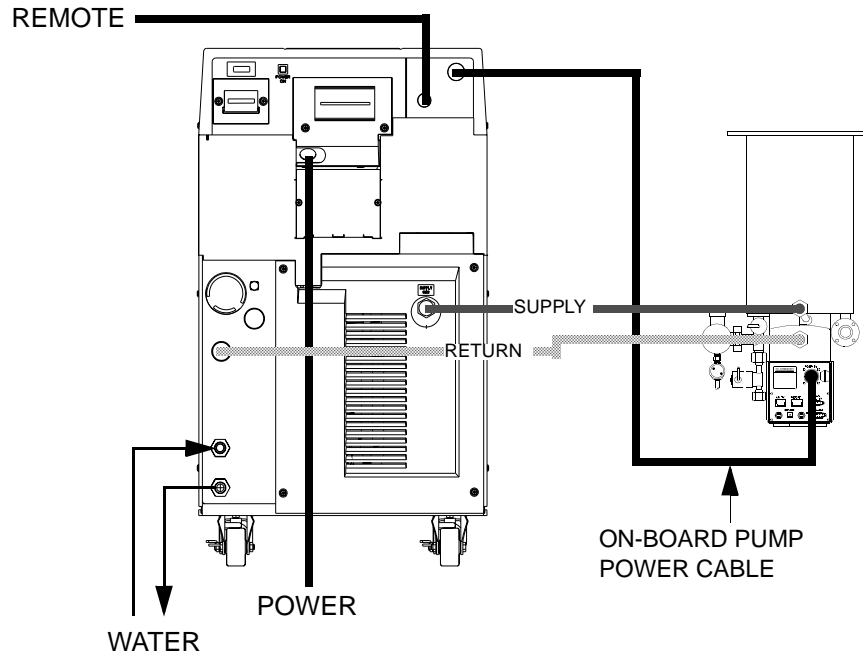

Figure 4-4: Single On-Board Pump Connections
2. Connect one end of the On-Board power cable to one of the PUMP POWER CONNECTORS on the rear panel of the 9700A Compressor as shown in Figure 4-4.
3. Connect the opposite end of the On-Board power cable to the On-Board Pump power cable connector as shown in Figure 4-4
4. If applicable, connect the compressor remote cable to the REMOTE connector as shown in Figure 4-4.